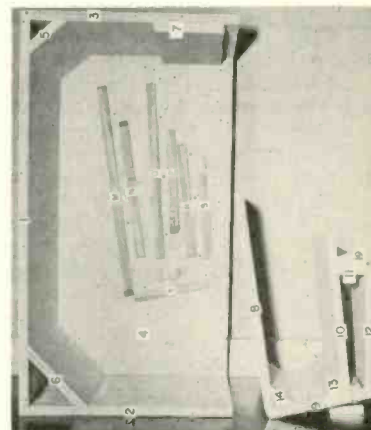

Fig. 9. Method of simplifying the assembly by use of temporary locating strips.
**Phase 1:** Fasten parts 1, 2 and 3 together with plenty of glue and nails and in turn fasten part 4 to their lower edges. Check with a square for rectangularity and then fix parts 5, 6 and 7 in place as in Fig. 9. The front edge of part 7 will eventually be part of the speaker panel seat while the back edge will control the position of the right end of part 15.
**Phase 2:** This involves parts 12, 11, 9, 10, 13, 8, and 14 (Fig. 9), which are assembled in that order. The use of temporary cleats M, N, R, S, T, and U bradded directly to the upper surface of part 4, will be a great help in keeping these pieces in their proper positions. Alternatively, this group of parts may be assembled on a bench or another piece of plywood in a duplicate set of cleats and the assembled parts set into place as a whole on the upper face of part 4 after Phase 3 is completed, Fig. 3.
**Phase 3:** This involves assembly of parts 15, 16, and 17 in place. Temporary cleats O and P, Fig. 9, are used to keep the left end of part 15 in its proper position.